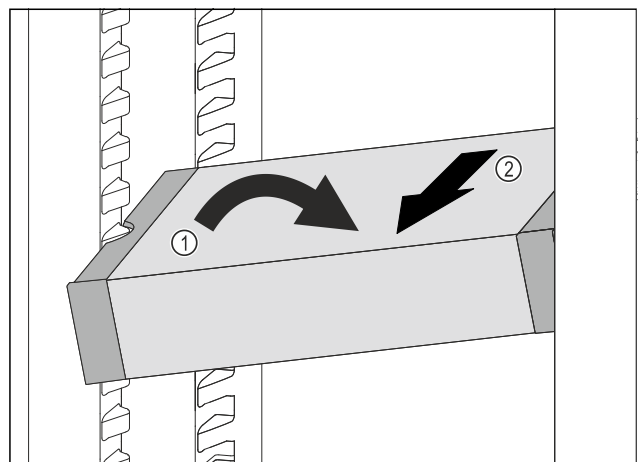

Fig. 180
- Set VarioSafe in refrigerator compartment at an angle. Fig. 180 (1)
- Take VarioSafe out to the front. Fig. 180 (2)